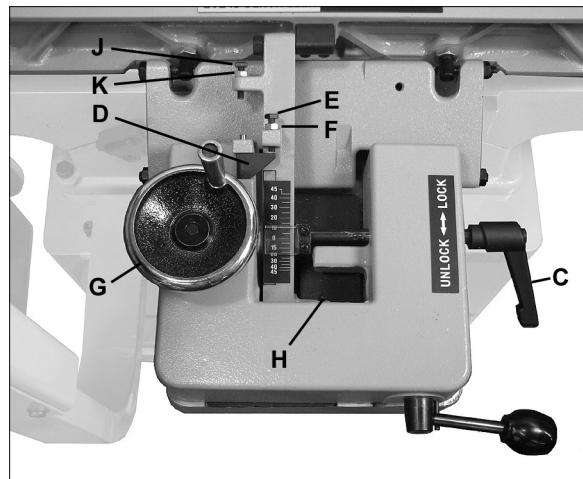

Figure 29
See Figure 29.
1. The 90-degree stop is controlled by the screw (E, Figure 29).
2. Loosen the locking handle (C) and the hex nut on the screw (F).
3. Set a square on the table and against the fence, and rotate the handwheel (G) to move the fence flush against the square. Rotate the screw (E) until it contacts the stop block (D).
4. Tighten the hex nut (F) and the locking handle (C).
1. The 45 degree forward stop is controlled by a screw (H, Figure 29) that is located at the bottom end of the link bar.
2. Loosen the locking handle (C) and the hex nut on the screw (H).
1. Flip the stop block (D, Figure 29) out of the way.
2. The 45 degree back stop is controlled by the screw (J).
3. Loosen the locking handle (C) and the hex nut on the screw (K).
5. Rotate the screw (J) to the proper height.
6. Tighten hex nut (K) and locking handle (C).